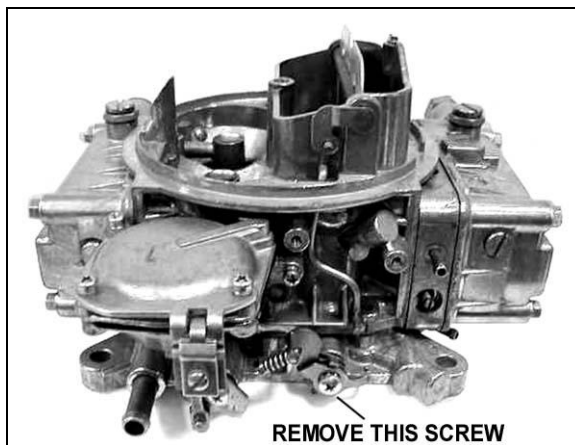

Figure 2
2. Remove the screw holding the fast idle levers (see Figure 2). Remove the fast idle levers and spring. Retain the screw, spring, and small lever for a later time.
3. Check the two (2) counter-bored holes to see if either one is drilled through. Blow compressed air into either of these holes. If air exits from the bottom of the carburetor, plug the hole with the lead ball provided in the kit.